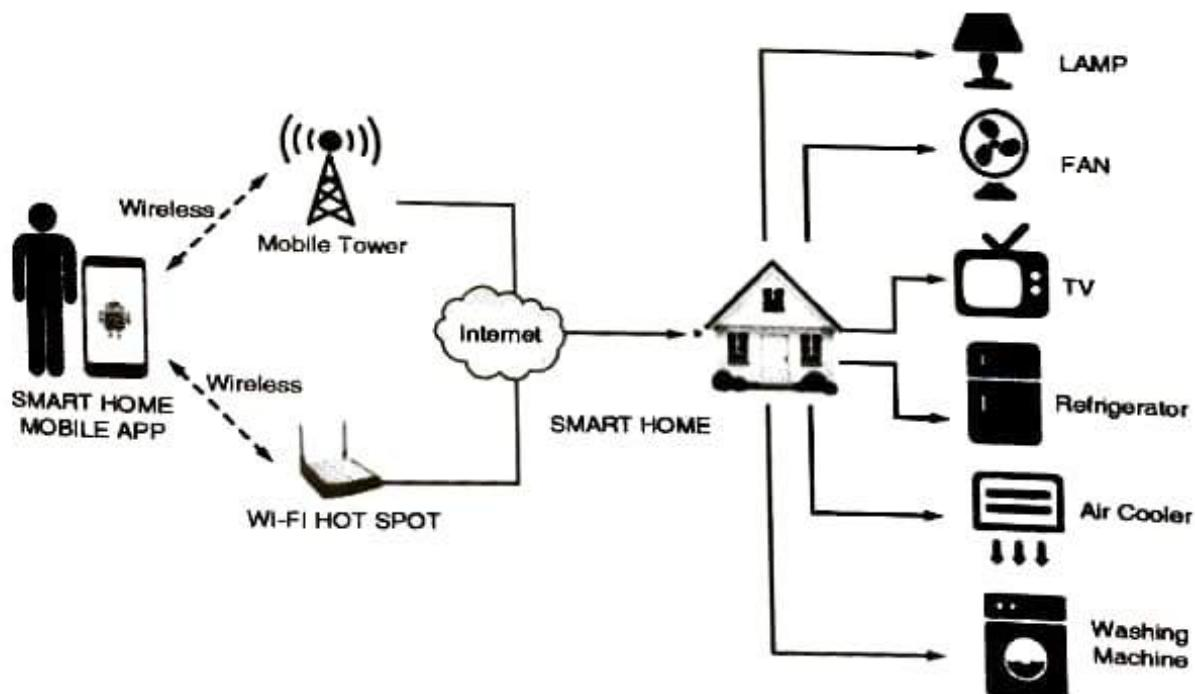

Fig. 6.2.1 : Home Automation
- As shown in Fig. 6.2.1, all the appliances of the home are connected to the internet through the gateway.